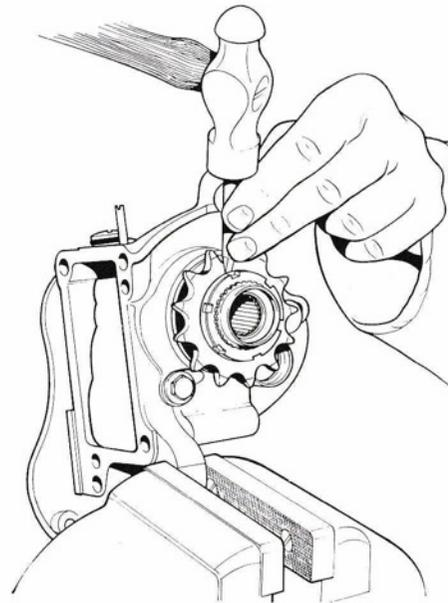

Fig. 43 Using a chain wrench to lock the countershaft sprocket.
- 7 Peen the locking into two of the locking castellations using a center punch. (See Fig. 43.)